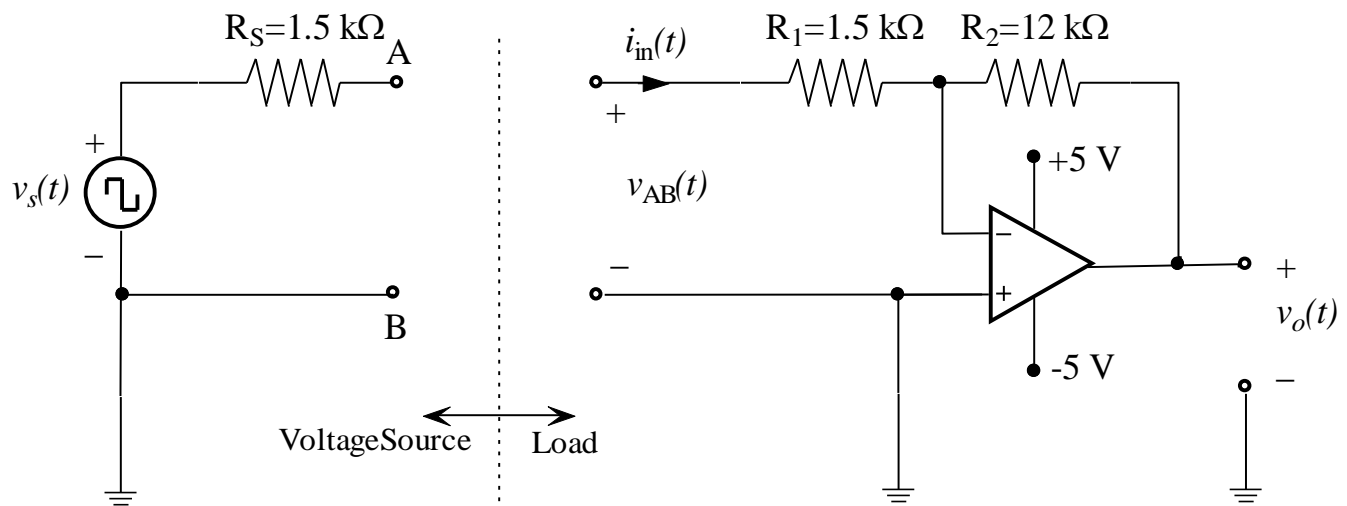

Fig. 4 Inverting amplifier and Thevenin signal source.
- Determine the linear region and the saturation regions when the supply voltage is ± 5 V. Sketch the expected transfer characteristics, i.e. the output voltage v_o as a function of the input voltage v_i , of the inverting amplifier of Fig. 4. Consider input voltages from -2V to +2V.
- Use the complete circuit of Fig. 4 to calculate the input resistance of the inverting amplifier $R_{in} = v_{AB}/i_{in}$. Consider the op-amp as ideal.
- Build a Thevenin source as shown on the left-hand side of Fig. 4 (“Voltage Source”). Do not attach it to the amplifier circuit (“Load”) yet.